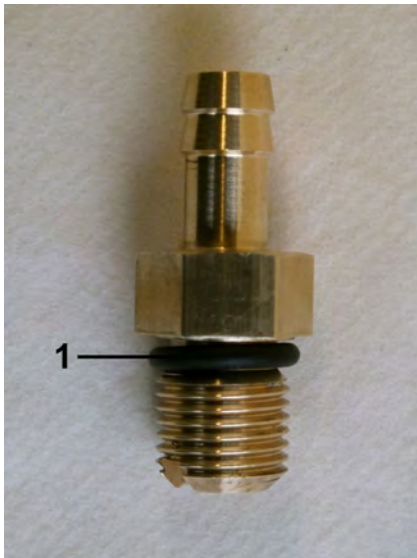

Fig. 25: Properly positioned O-ring
1.  Carefully install the O-ring (Fig. 24/2) with the aid of the O-ring installation tool (Fig. 24/1) onto the process connector (outlet), so that it is properly seated in the O-ring groove of the process connection (Fig. 25). When doing so, be careful not to overstretch the O-ring.
2.  Position the O-ring properly on the process connection (outlet) (Fig. 25/1)